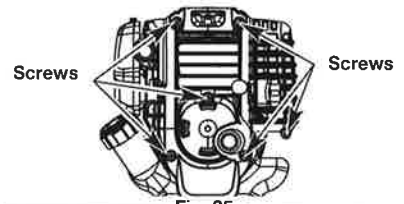

Fig. 25
1. Remove the six (6) screws on the back of the engine cover with a Flat-head or T-25 Torx screwdriver (Fig. 25).
4. Remove the engine cover (Fig. 25).
1. Stop the engine and allow it to cool. Remove the six (6) screws on the back of the engine cover with a Flat-head or T-25 Torx screwdriver (Fig. 25).